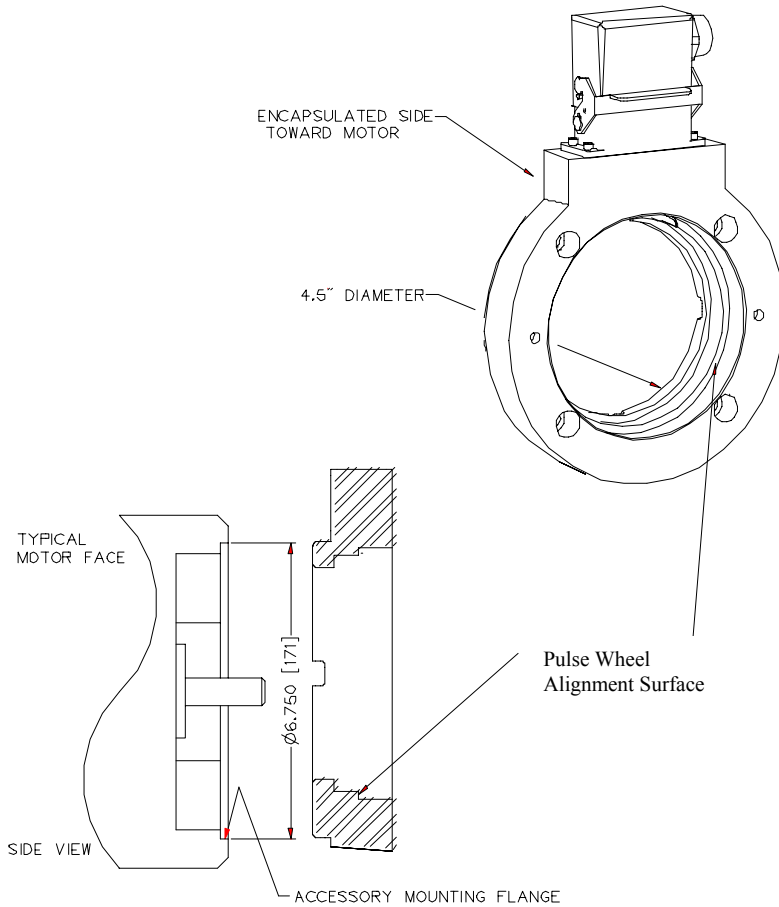

Figure 4: Typical Motor Mounting
To install the tachometer frame: (see Figure 4)
2. Rotate the pulse wheel so the words “THIS SIDE OUT” (or stamped letter “Z”) is visible, away from the motor. Slide the pulse wheel onto the motor shaft. Push the wheel along the shaft until the edge of the pulse wheel is flush with the machined recess in the tachometer frame (see Figure 4). The purpose of this step is to properly center the pulse wheel under the sensor.